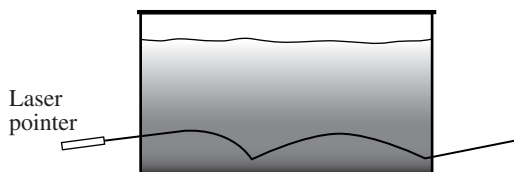

Figure 2.
2. “Bounce” the laser beam across the bottom of the container via reflections. The laser beam will reflect off the bottom of the glass tank and the reflected light will then bend again towards the bottom as it passes through the density gradient (see Figure 2). *Note:* The sugar must be completely dissolved from the bottom of the container for the light to reflect off the bottom.